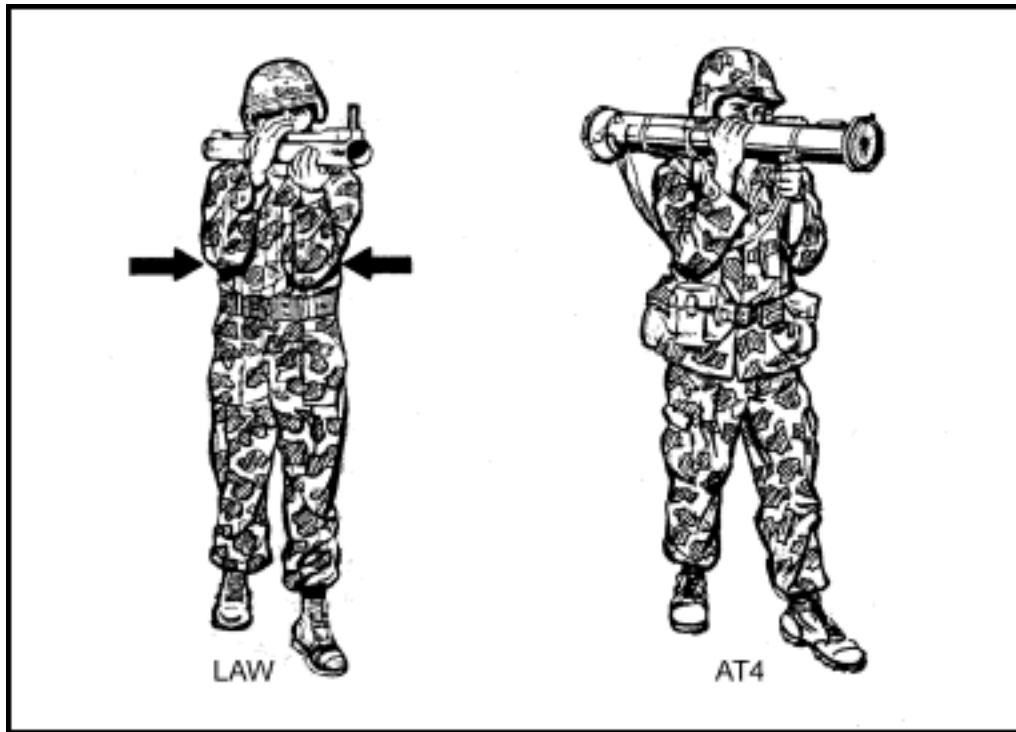

Figure 5-1. Basic standing position.
a. **Basic Standing Position.** Raise the launcher slightly higher than shoulder level. Execute a left face, rotate your shoulder under the launcher, and spread your feet a comfortable distance apart. Move your left foot 15 to 24 inches forward, keeping your hips level and your weight balanced on both feet. To obtain a firm, stable position, tuck both elbows tightly into your body. To track a moving target, turn your body at the waist•not with your legs. This enables you to track the target smoothly. Unless you are behind a protective barrier such as a wall, the standing position exposes you more than any other position to enemy observation and possible suppression. Differences between weapons with respect to the standing position are as follows (Figure 5-1):